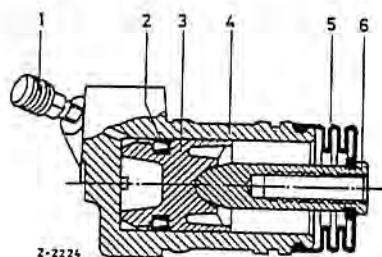

Fig. 29-4/4
1. Originally the extraction cylinder was fastened to the clutch housing (2) by means of hexagon screws (1) (Fig. 29-4/7). If on cars of this type the thread in the clutch housing has been damaged, Heli-Coil threaded adapters M 8 x 12 can be inserted instead. On new models the extraction cylinder is fastened to the clutch housing by means of two stud bolts (1) (Fig. 29-4/8).
Note: On Model 300 SE with mechanical transmission the extraction cylinder is attached to the clutch housing by means of a snap ring (13). The noses of the snap ring, which are under slight tension, must point towards the clutch housing when installed (Fig. 29-4/9).